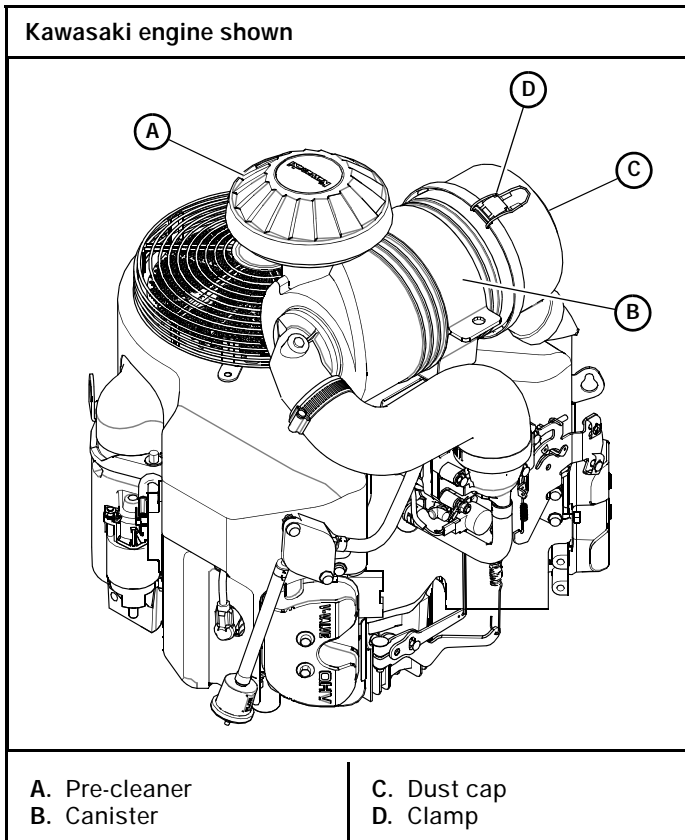
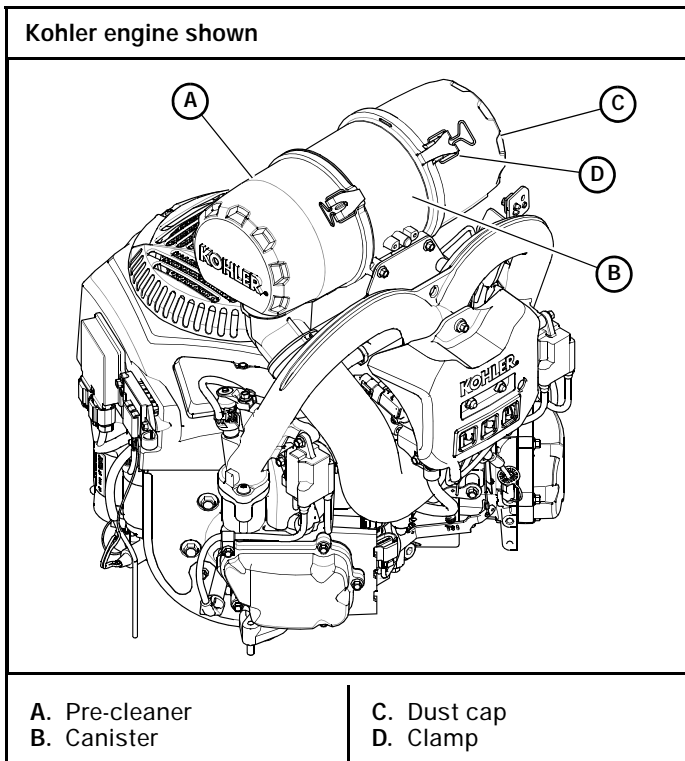

Figure 5-3
Figure 5-4
A specially designed dry filter is standard equipment on these mowers and supplies clean combustion air to the engine. Figure 5-3 & Figure 5-4
- Reinstall the dust cap. Make sure it seals all the way around the air cleaner canister, then tighten the clamps. Figure 5-3 & Figure 5-4